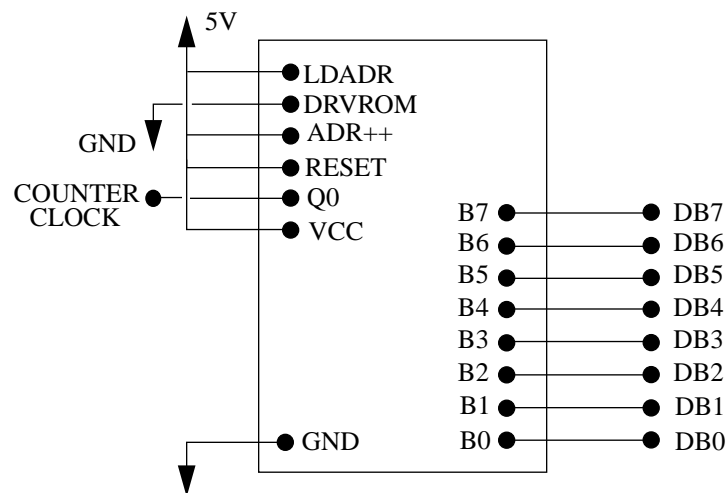

Figure 1: pin assignments for the printed circuit board that contains the counter and memory.
Figure 1 shows the pin assignments for the printed circuit board. The pins for the eight memory output data bits are on the right hand side. The pins for power and ground,
and the clock input to the counter are on the left hand side. You should connect the power pin to the 5-V power supply on the protoboard, and the ground pin to ground on the protoboard. There are also four counter and memory control pins which must be connected to the 5-V power supply and ground as shown in Figure 1.
- (4-5) Connect the eight data-bit inputs of the digital-to-analog converter to their corresponding data-bit outputs from the memory; refer to Figure 1 for the memory pin assignments. With the oscilloscope, observe the converter output  $v_{DAC}$ . You should see an audio signal reconstructed in a piecewise constant manner. Adjust the offset voltage  $v_{OFF}$  so that the audio signal is centered around 0 V.